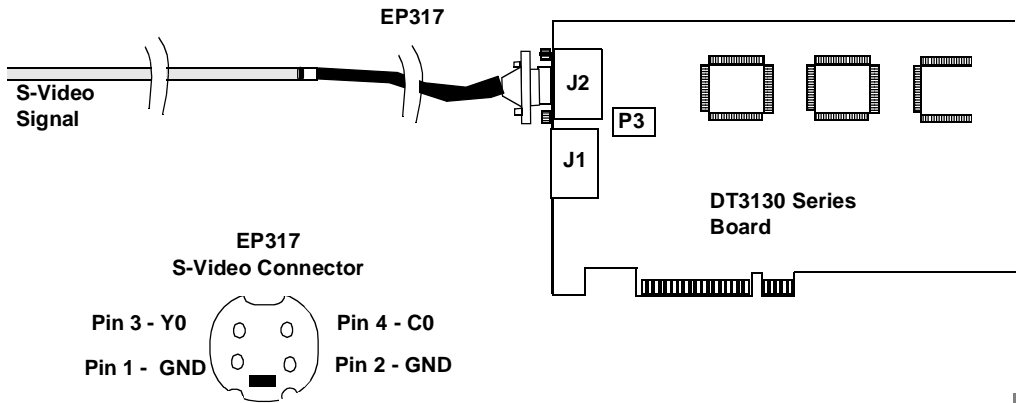

Figure 6: Connecting an S-Video Signal to an DT3130 Series Board
2. Attach the S-video connector of your signal source to the male S-video connector on the EP317 cable. Refer to Figure 6.